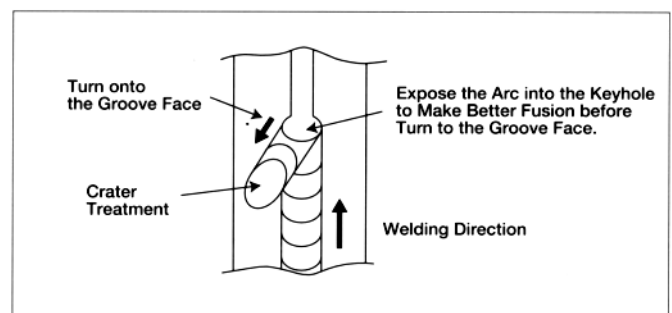

**Fig. 4 — The keyhole technique**
- (1) Use the keyhole technique. Right after you get the arc by striking the groove face, control the molten pool to form the keyhole crater: then manipulate the electrode along the edge of the keyhole by using the semi-weaving technique — Fig. 4.
- (4) Grind both the starting and ending terminals of the preceding weld beads to assure a smooth joint of weld beads with the succeeding welds.
- (5) When joining the weld beads, start the arc on the preceding bead, and expose the arc into the keyhole to assure better fusion: then follow the same procedure as in Fig. 4.